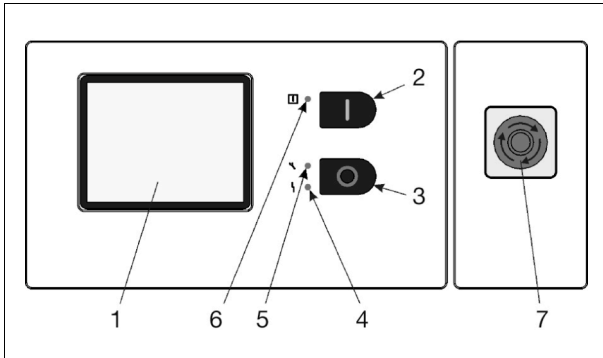

Fig. 15
- Press START button [ I ] (- 2 - Fig. 15).
- To switch off the compressor in the usual way use the STOP button (-3- Fig. 15) and not the emergency STOP button (-7- Fig. 15). After shutdown the compressor has a run on time of 30 - 50 seconds (soft-stop). The time remaining is counted down on the display.
- Press START button [ I ] (-2- Fig. 15).
To switch off the compressor use the O key (-3- Fig. 15) and not the EMERGENCY STOP button. After shutdown the compressor has a run on time of 30-50 seconds (soft-stop).
The EMERGENCY STOP button is situated next to the GD Pilot TS. It is used to immediately shut down the unit. Only use the EMERGENCY STOP button (-7- Fig. 15) to shut down the unit in emergencies. When shutting down normally, always use the [O] key.